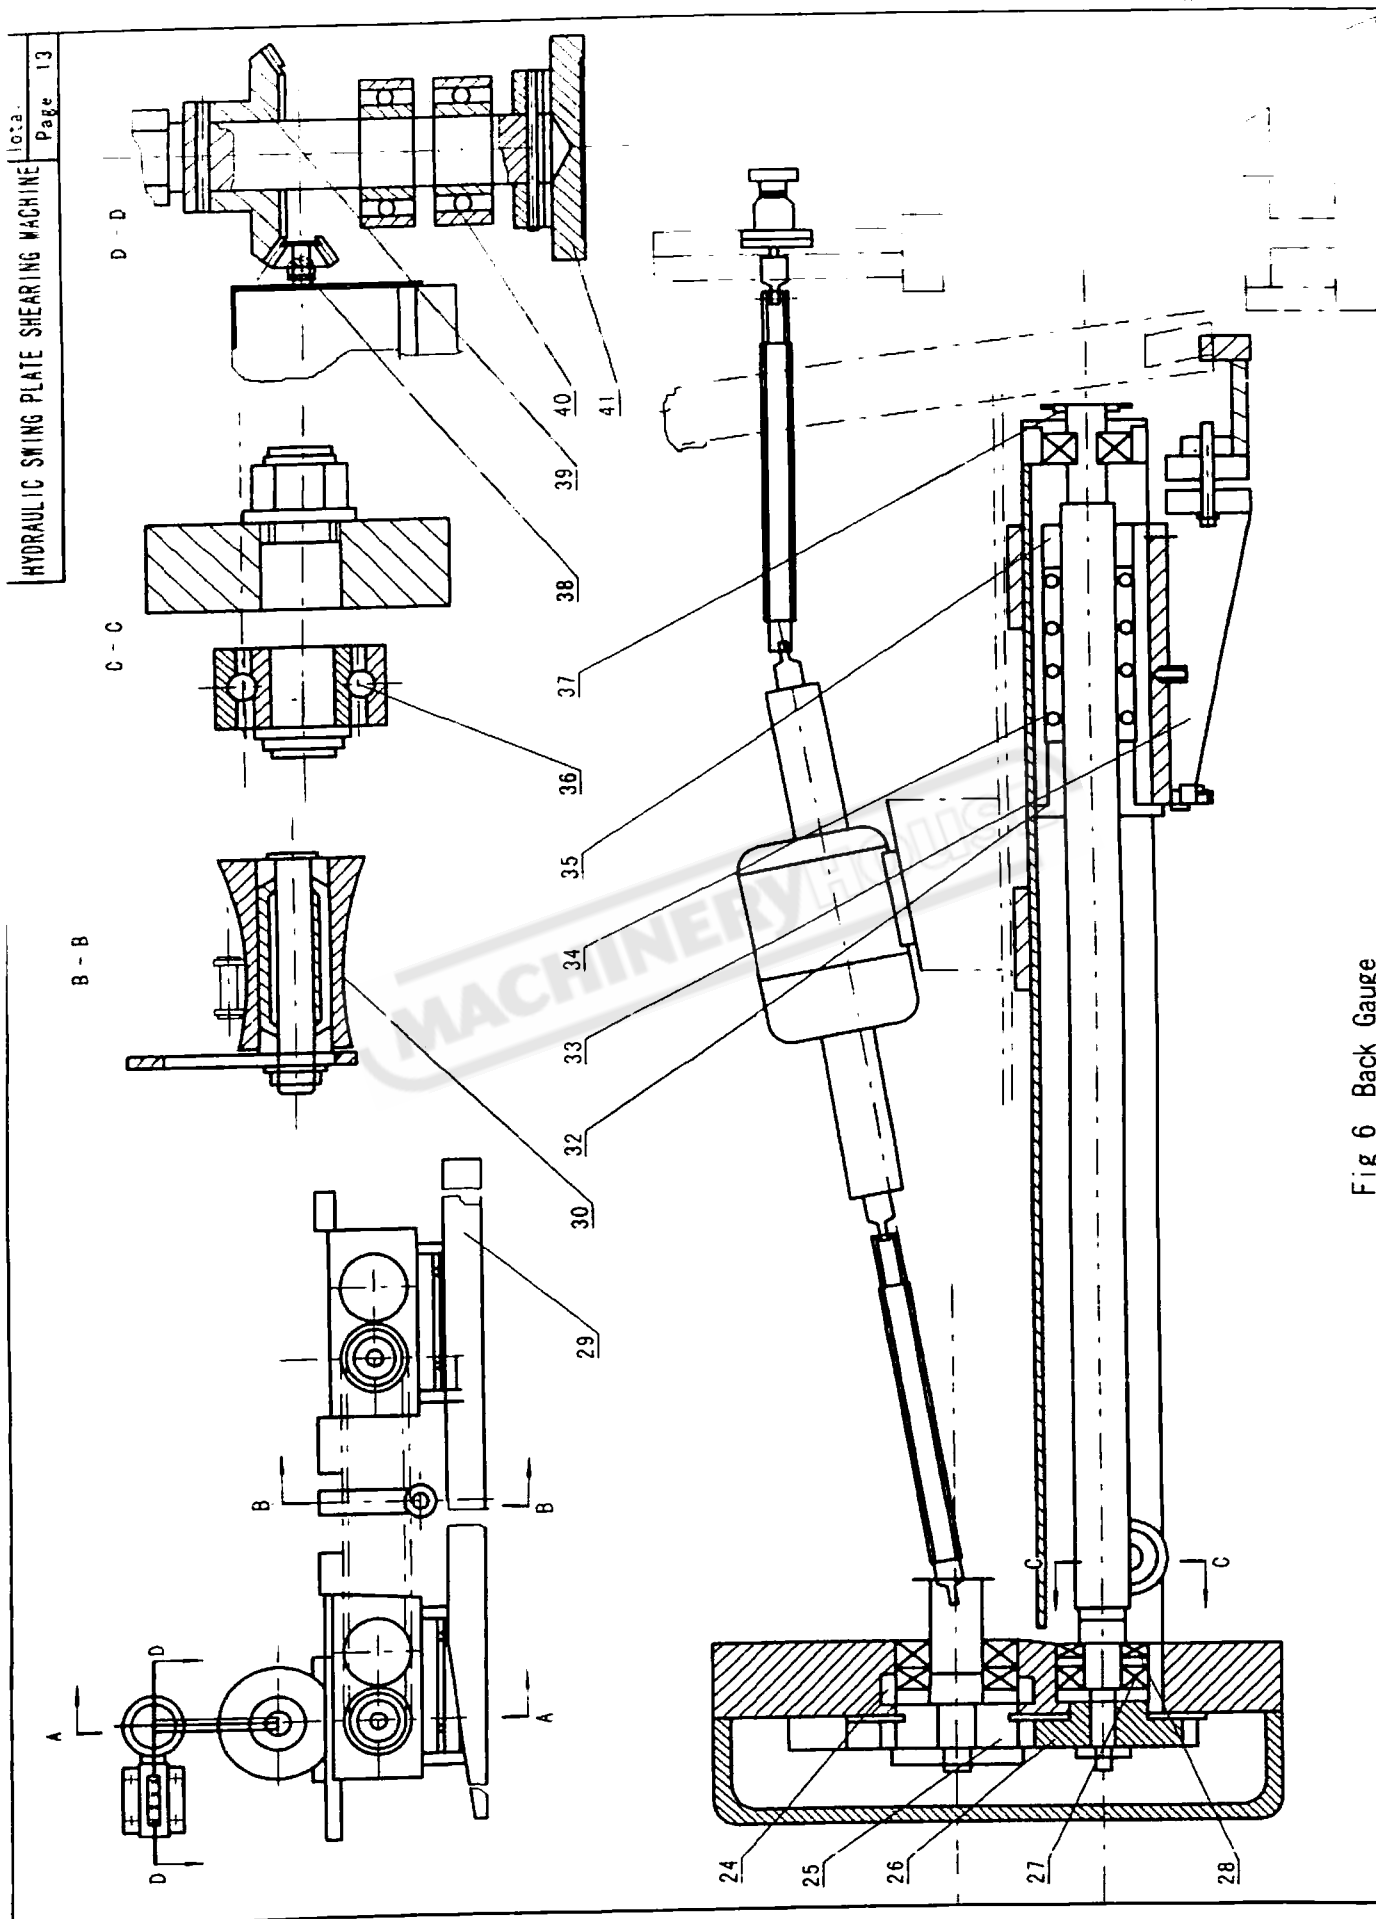

Fig 6 Back Gauge
Back Gauge (figure 6) is fitted on the top blade beam. And it moves up and down with the top blade beam. The adjustment of the back gauge is driven by the 0.55 kw motor. The gear reduces the speed and the rod drives the back gauge. Pushing the adjusting button "+" (or "-") can move the gauge plate forward (or backward). If all these can't be done by the machine adjustment, manually turning the hand wheel (41) give you the right adjustment value. So the adjustment of the back gauge is convenient and reliable.